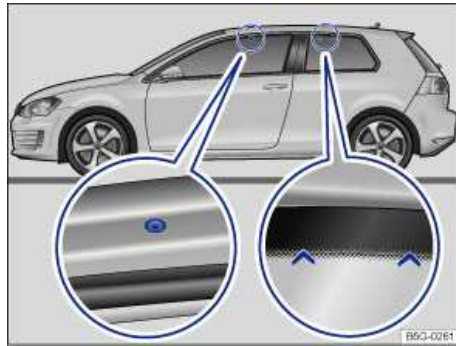
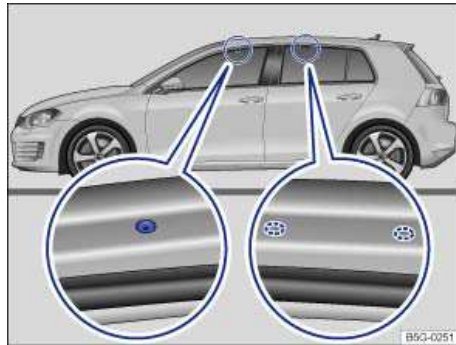

Fig. 96 Mounting points for the base carrier and roof rack on 2-door vehicles.
Fig. 97 Mounting points for the base carrier and roof rack on 4-door vehicles.
The front mounting holes are on the underside of the roof frame. They are sealed with plastic screws that must be removed before installation ⇒ fig. 96 (magnified view on left). The holes are only visible when the door is open. The rear markings for the base carrier are above the rear side windows (magnified view on right).
The front mounting holes are on the underside of the roof frame. They are sealed with plastic screws that must be removed before installation ⇒ fig. 97 (magnified view on left). The rear markings for the base carrier are on the underside of the roof frame (magnified view on right).
- Secure the roof rack base carrier only at the attachment points shown in the illustration ⇒ fig. 96 or ⇒ fig. 97.